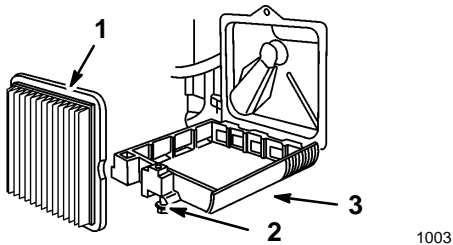

Figure 15
2. Loosen the screw securing the air cleaner cover (Fig. 15).
3. Tilt the cover down and clean it thoroughly (Fig. 15).
4. Remove the paper air filter and discard it (Fig. 15).
5. Insert a new paper air cleaner filter (Fig. 15).